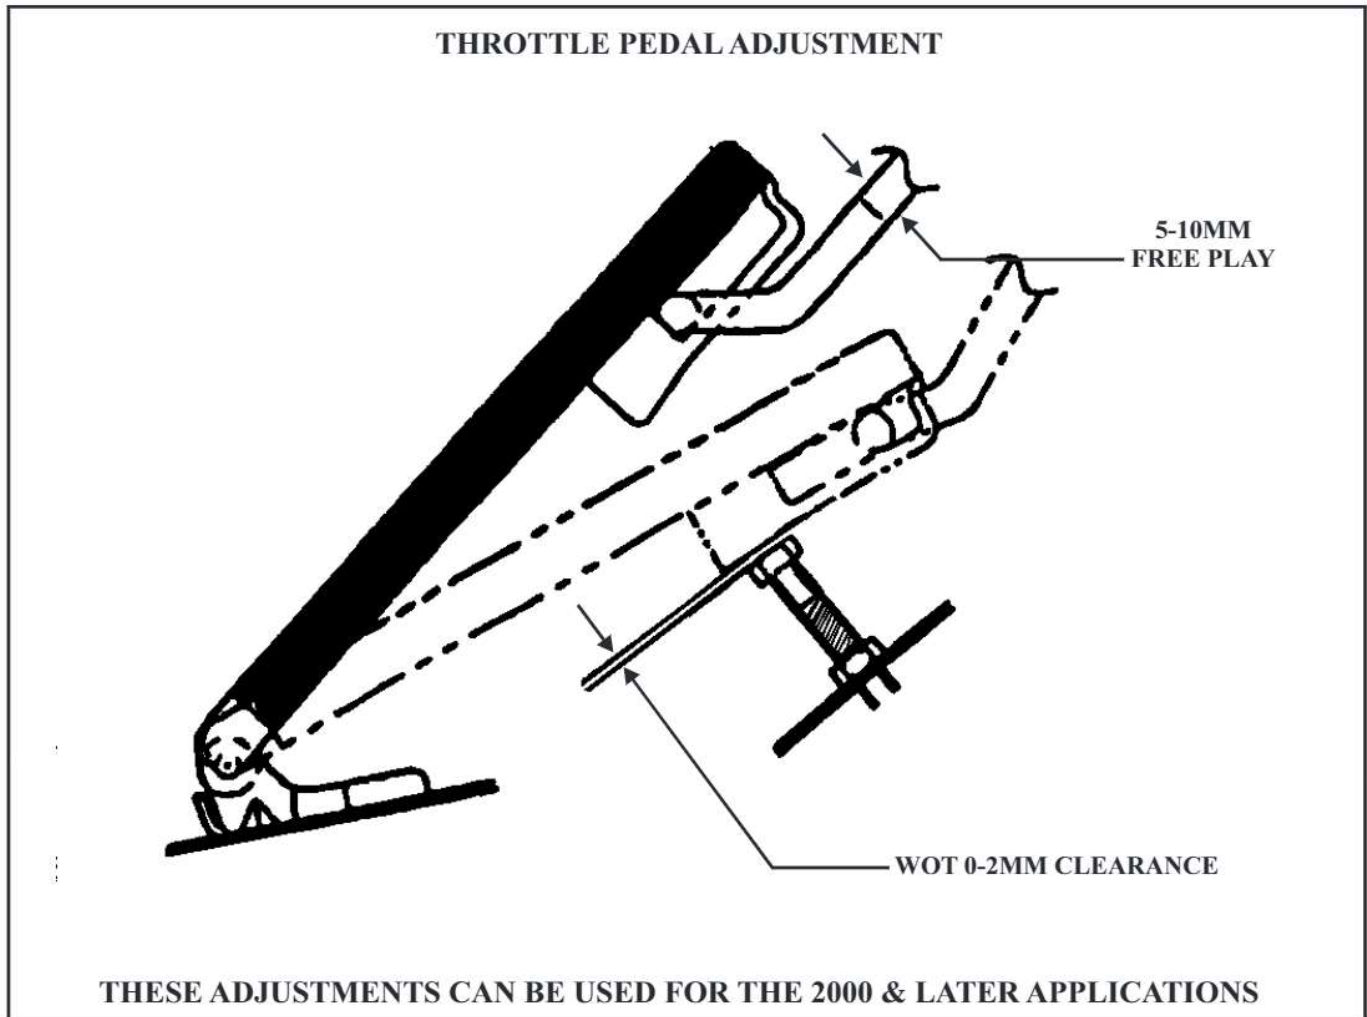

Figure 23
4. Depress the accelerator pedal to full throttle, the pedal should stop 0.0 to 2.0 mm above the floor mounted stopper bolt, (Refer to Figure 23).